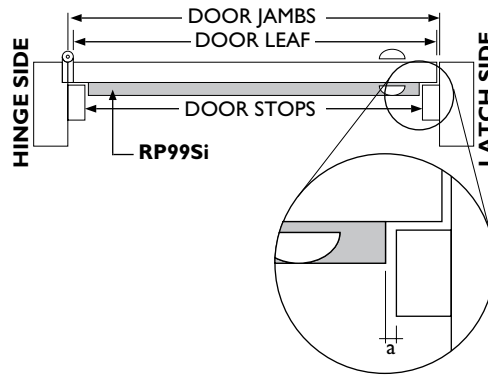
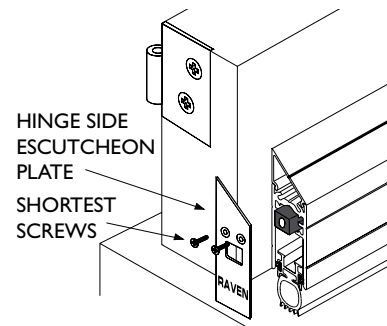

FIG. 2
FIG. 4
- » To remove cover strip once fitted, it is recommended to slide off or if tight, lever off with a large flat blade screwdriver under leg. **(FIG.4) PAGE 2**
STEP 1 Slide off cover strip. **(FIG.2) Note:** If tight, lever off with a large flat blade screwdriver under leg. **(FIG.4)** Turn whole RP99Si around so adjustment block is on hinge side to suit hand of door. **(FIG.1 & FIG.2)**
To allow for operating clearance, file the cut end of the inner extrusion 1mm shorter. Trim gasket. **(FIG.2)**
STEP 4 Wind adjustment block all the way in. **(FIG.2)** Refer **STEP 10**.
to prevent base assembly or holes moving out of alignment. **(FIG.2)**
STEP 7 Re-position the base assembly on the door (still chocked) and screw into position using the longest screws supplied. **(FIG.4)**
STEP 8 Fit on the cover strip by hooking the front leg into position. Then with a rubber mallet, lightly tap the top of cover strip to snap in rear leg. **(FIG.4)**
STEP 10 Adjust seal travel to make full contact with sill. To adjust seal travel either pull out adjustment block to clear escutcheon plate. Firmly holding metal threaded rod, turn adjustment block anti-clockwise to increase seal travel and clockwise to reduce seal travel. Or turn adjustment screw with a flat blade screwdriver **(FIG.2)**. Turning screw clockwise increases seal travel, anti-clockwise reduces seal travel. **Note:** Only turn adjustment half a turn at a time then close door to check seal travel before further adjustment. To compress seal is not necessary since this will increase seal wear.
STEP 11 The seal is factory set to seal a door bottom that is parallel with the floor (excludes 600mm unit length). To adjust, screw level adjustment screw with a Phillips head screwdriver. **(FIG.4) Note:** Adjustment is very sensitive. Screw clockwise to bias seal on latch side. Screw anti-clockwise to bias seal on hinge side.